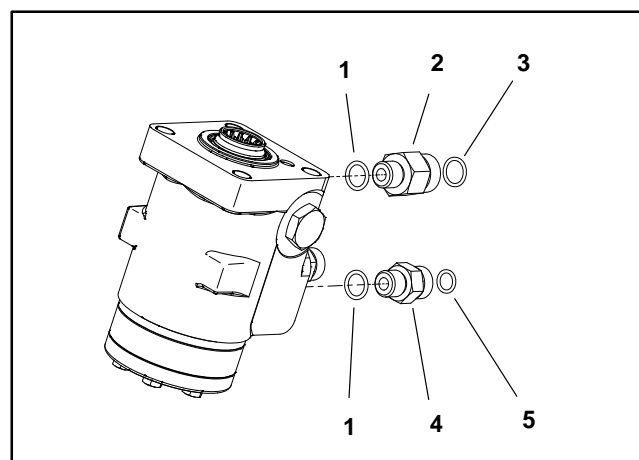
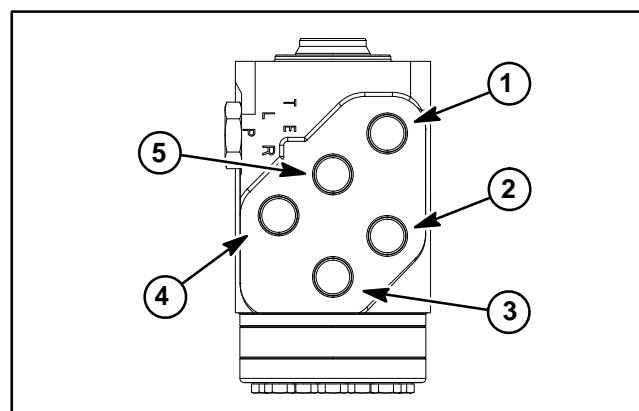

Figure 135
Figure 136
3. Label all hydraulic lines and fittings at steering control valve for assembly purposes. Note port designations on steering control valve (Fig. 136). Thoroughly clean hydraulic connections prior to loosening hydraulic lines.
6. While supporting steering column to prevent it from falling, loosen and remove four (4) carriage screws (item 8) and flange nuts (item 11) that secure steering column assembly to machine. Locate and retrieve four (4) washers (item 10) and mounts (item 9).
9. Loosen and remove three (3) flange head screws (item 12) and one (1) socket head screw (item 13) that secure steering column to steering control valve. Note location of socket head screw for assembly purposes.
10. Remove steering control valve (item 6), alignment bushing (item 4) and steering plate (item 7) from steering column.
11. If necessary, remove fittings and O-rings from steering control valve (Fig. 135). Discard all removed O-rings.